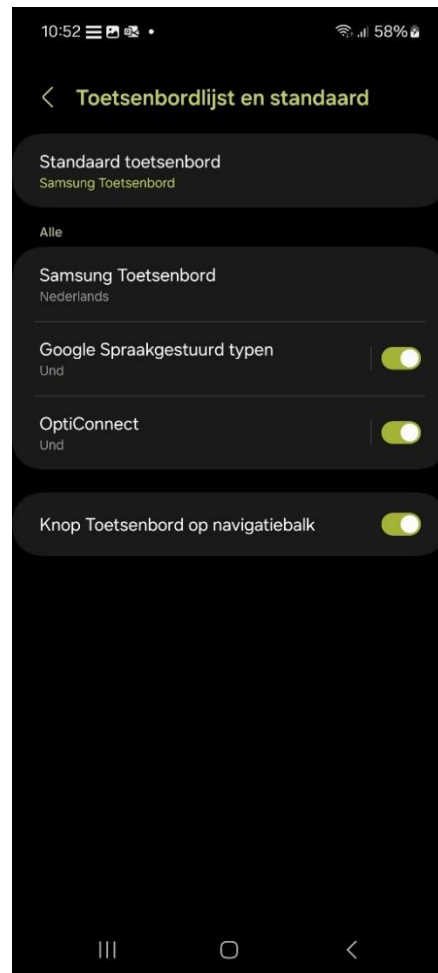

Figure 9-2: The Android *Keyboard list and default* page where the OptiConnect keyboard should be enabled.
- Tap on the *Enable Virtual Keyboard* button to activate the OptiConnect Virtual Keyboard (see Figure 9-2).